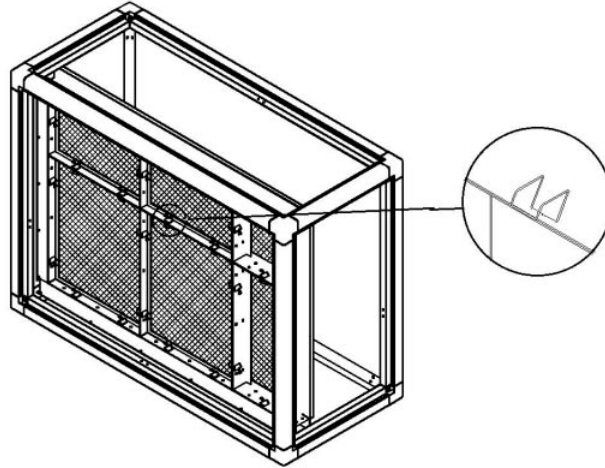

Figure 3.29 Snap-Type Filtering Framework
- 1) Snap-type filter frame (Figure 3.29): Release the snap by hand, then put the filter in place and tighten the snap.